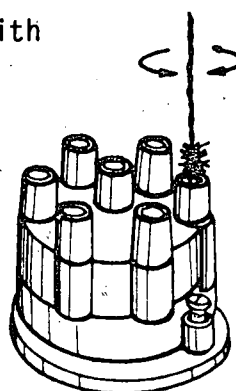

Fig. 2
- b) Clean the distributor cap contacts with a wire brush (fig. 2).